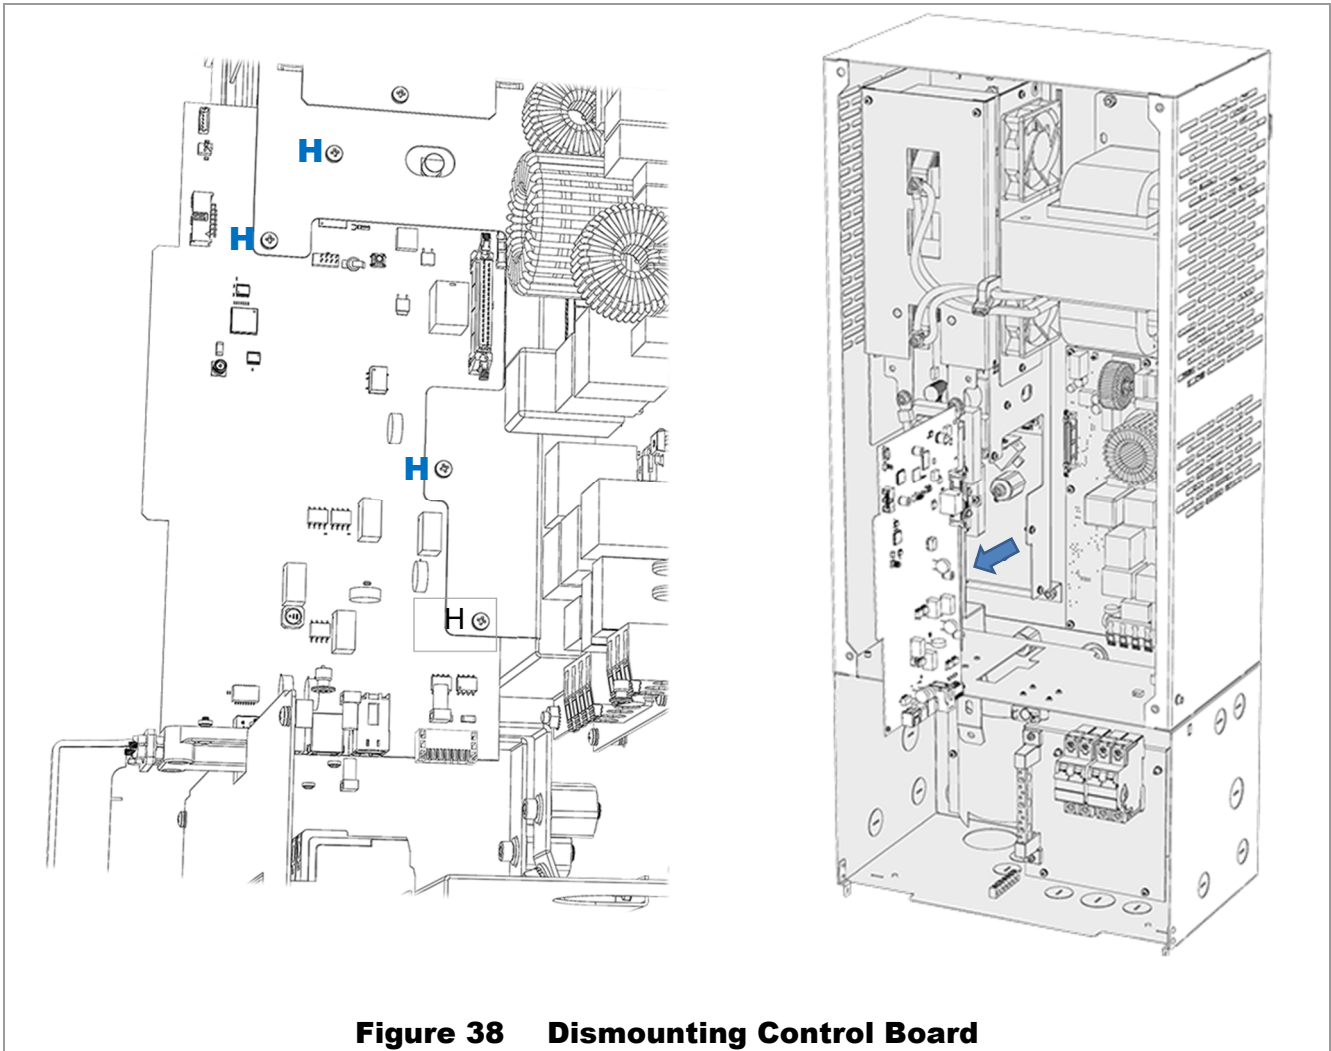

Figure 38 Dismounting Control Board
4. Using a #2 Phillips screwdriver, remove 4 screws **H** from the control board. See Figure 38.
5. Carefully remove the control board, pulling toward the front of the inverter, as shown in Figure 38.